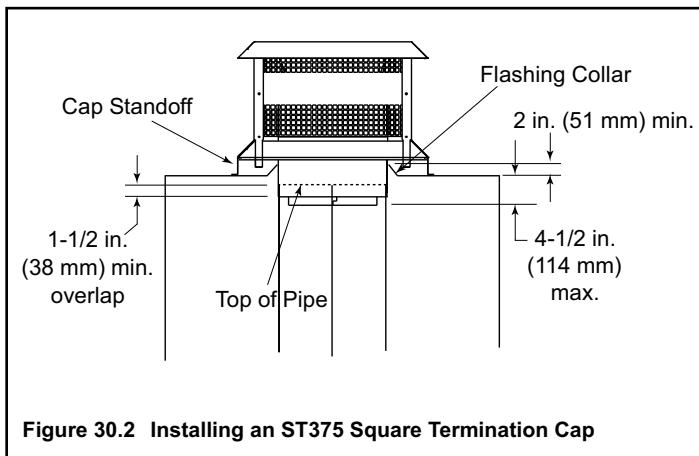

Figure 30.2 Installing an ST375 Square Termination Cap
- For installations utilizing an ST375 Square Termination Cap the last chimney section must not be more than 4-1/2 in. (114 mm) below the chase top. See Figure 30.2.